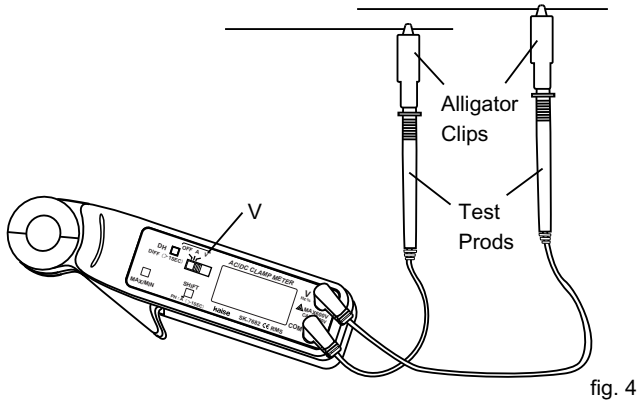

fig. 4
8. Turn on power to the circuit to be measured and read the voltage on LCD. Refer to the figure 4.